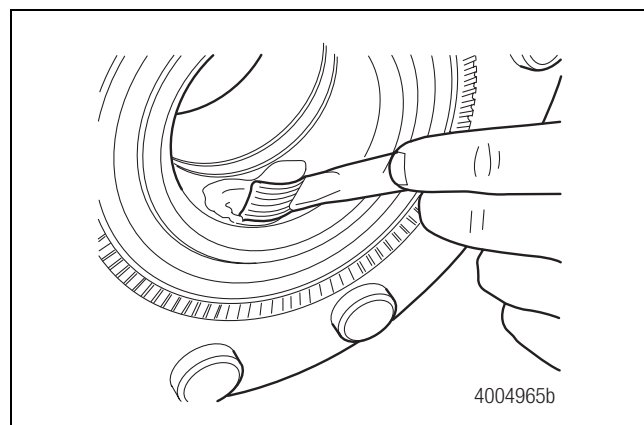

Figure 4.41
- Apply a light coating of bearing grease to the hub bore. The entire hub bore which comes in contact with the spindle should be covered. This grease will help reduce spindle wear, assist in hub removal, and help seal the hub-spindle joint. Figure 4.41.